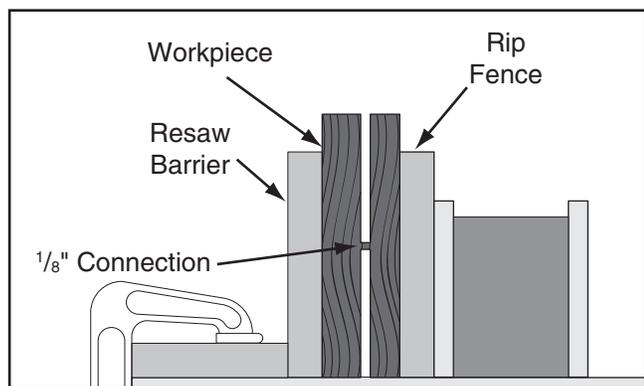

Figure 124. Ideal completed resaw cut.
4. Place workpiece against rip fence and slide resaw barrier against workpiece (see **Figure 124**).
IMPORTANT: *The ideal completed resaw cut will leave approximately $\frac{1}{8}$ " connection when the resawing is complete, as shown in **Figure 124**. Leaving a $\frac{1}{8}$ " connection will reduce risk of kickback.*